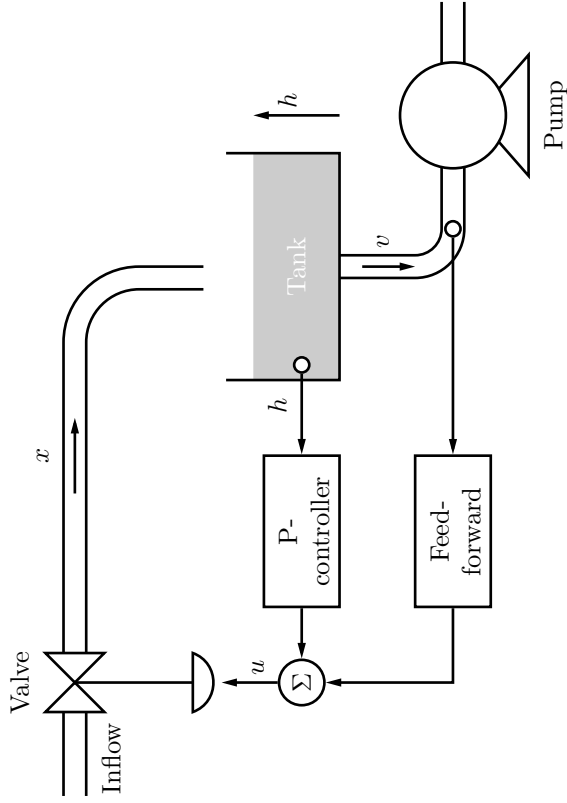

Figure 7.2a
7.2 A level control system for a water tank is shown in Figure 7.2a, where all variables denote offsets from an operation point. The inflow,  $x(t)$ , to the tank is determined by the valve, and the outflow,  $v(t)$ , is determined by the pump. Stu Dent has got the assignment to keep the water level in the tank constant, in spite of variations in the outflow  $v(t)$ . First, Stu determines the transfer function  $G_v(s)$  from the valve to  $x(t)$ . By step response experiments, he obtains the following result: